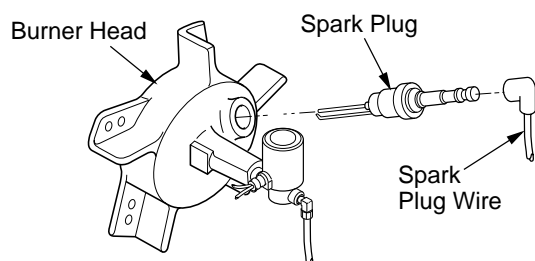

Figure 8 - Spark Plug Removal
2. Remove spark plug wire from spark plug (see Figure 8).
3. Remove spark plug from burner head using 13/16" open-end wrench (see Figure 8).